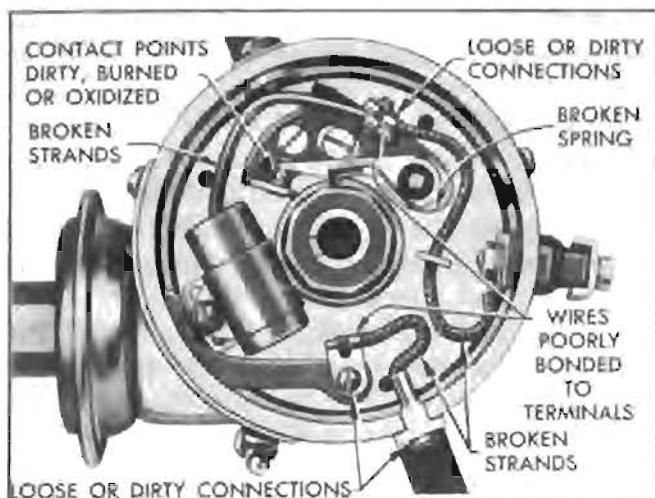

Figure 10-60—Points of Resistance in Primary Circuit of Distributor
1. Check contact point and condenser connector leads and breaker plate ground lead for loose or broken connections. Inspect for broken breaker arm spring and loose or broken rubbing block. See figure 10-60.